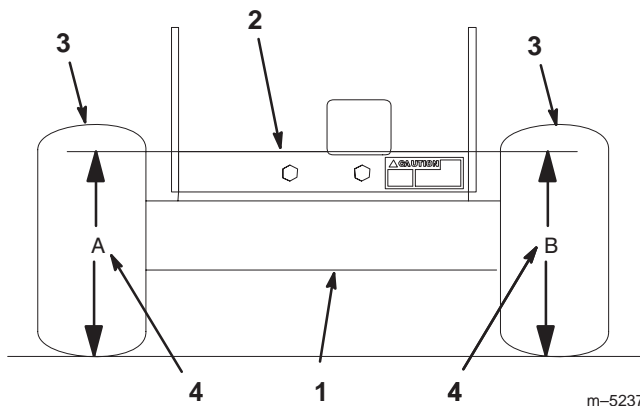

Figure 51
3. Measure engine deck height at location "A" (Fig. 51).
4. Measure engine deck height at location "B" (Fig. 51).